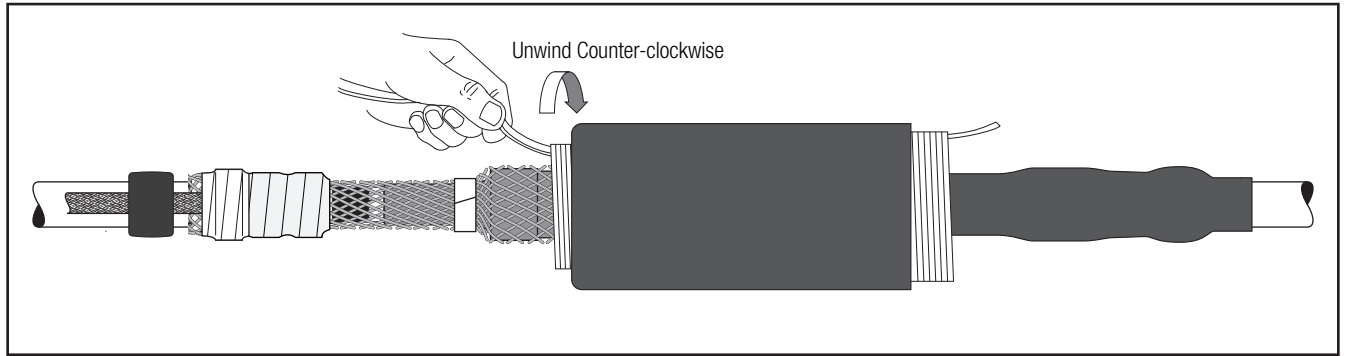

Figure 42
- 8.2 Begin to install the cold shrink tube by completely covering the rubber mastic, and slowly pulling and unwinding the inner core counterclockwise toward the splice body. The outer core should remain relatively stationary while unwinding the inner core. If the outer core begins to move towards the first mastic seal, gently pull the outer core and jacketing tube towards the second mastic seal and continue unwinding the inner core (Figure 42).